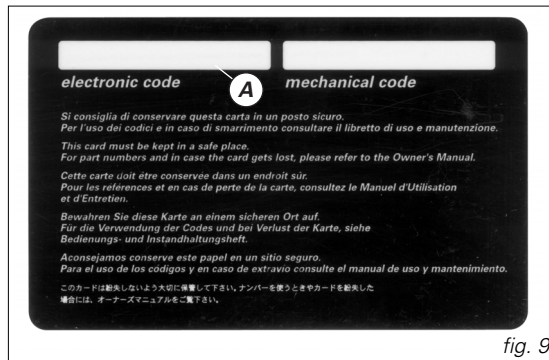

fig. 9
A) (fig. 9) the electronic code to be used in case of engine block, i.e. bike did not start after **key-ON**.